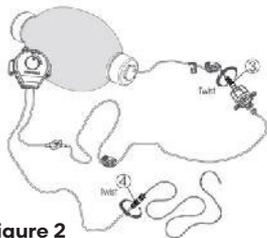

Figure 2
3. Connect the luer-lock connector of the compression unit tubing to the regulator input (see Figures 2, 3).
4. After the pump is primed, connect the male luer-lock connector of the regulating set exit port to the catheter inlet port (see Figure 2).